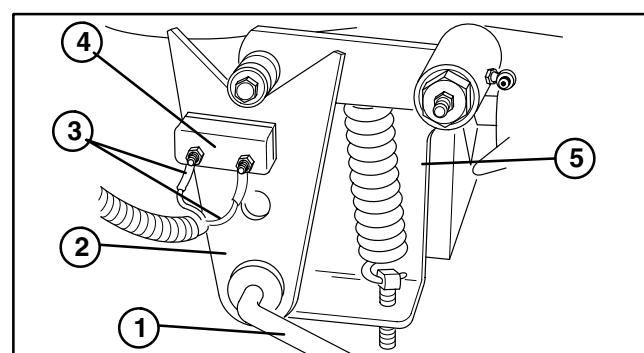

Figure 32
- Remove cotter pin and flat washer securing the pump control rod to the pump lever. Pull control rod from the pump lever (Fig. 32).
- Label electrical wires. Disconnect wires from the neutral switch (Fig. 32).
- Remove cap screw and lock nut securing the pump lever to the hydrostat trunnion (Fig. 32).
7. Remove three cap screws securing the pump plate to the hydrostat while pulling the pump plate from the hydrostat (Fig. 32).
10. Clamp suction hose (8) to prevent draining the hydraulic tank.
12. Remove suction hose (8) from push on fitting (10). Allow fluid to drain from the hose into the container.
13. Remove hydraulic hoses (4 and 5) and O-rings (29) from the hydrostat. Allow fluid to drain from the hoses into the container.
15. Loosen both set screws (20) from hydrostat shaft.
16. Support hydrostat to prevent dropping during removal. Remove both hex nuts (27), lock washers (28), cap screws (6) from the hydrostat (9) and pump mount (25). Pull hydrostat from mount and machine.
17. Remove woodruff key (26) from hydrostat shaft.
2. Reinstall O-rings (32) and hydraulic fittings (12 and 13) to the hydrostat. Observe match marks when tightening.
4. Install woodruff key (26) to hydrostat shaft. Support hydrostat (9) while positioning onto pump mount (25). Make sure woodruff key (26) stays in place when the shaft is inserted into the pump hub (24).
5. Secure hydrostat to mount with both cap screws (6), lock washers (28), hex nuts (27). Tighten set screw (20) to hydrostat shaft.
8. Reinstall hose clamp (30) and suction hose (8) to push on fitting (10). Tighten hose clamp.
9. Remove clamp used to prevent draining the hydraulic tank from suction hose (8).
10. Reinstall hydraulic hoses (4 and 5) and O-rings (29) to hydrostat (9).
11. Secure pump plate to the hydrostat with three cap screws. Tighten cap screws while attaching the pump plate to the hydrostat (Fig. 32).
12. Align pump lever to the hydrostat trunnion. Secure pump lever to the hydrostat trunnion with cap screw and lock nut (Fig. 32).
13. Reconnect wires to the neutral switch (Fig. 32).
14. Insert control rod into the pump lever. Secure pump control rod to the pump lever with flat washer and cotter pin (Fig. 32).